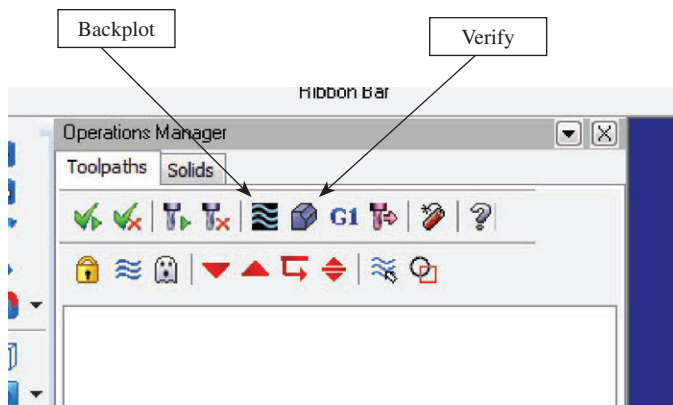

Figure 24-24
- [] Operations Manager Tab Fig 24-24-left side